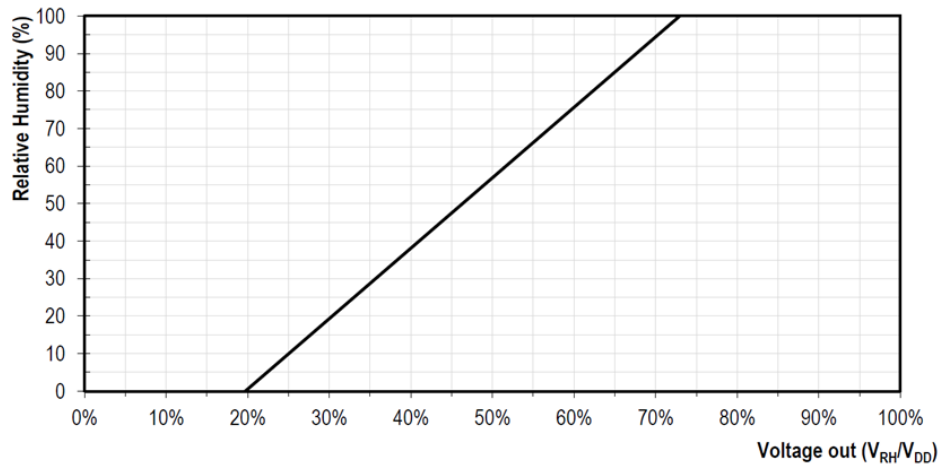
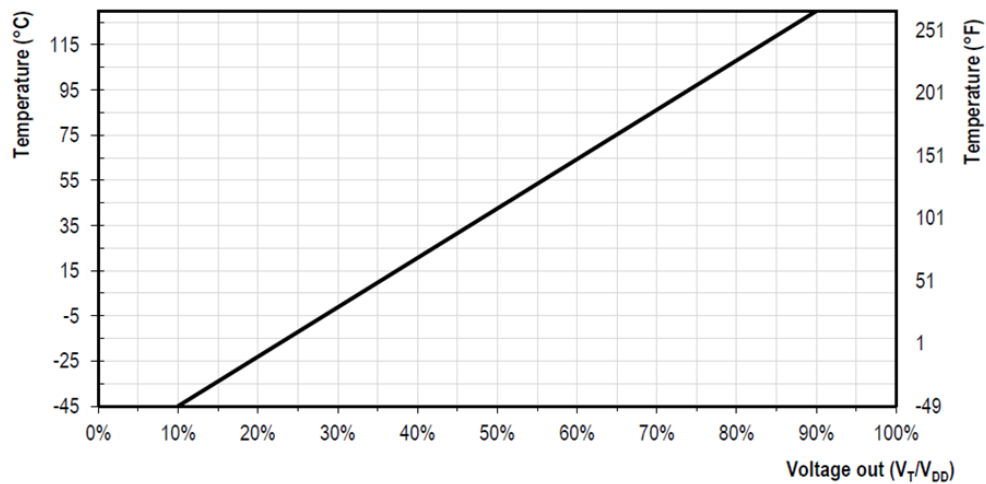

Figure 4 Relation between relative humidity and RH output voltage
Figure 5 Relation between temperature and T output voltage
Equations (1), (2) and (3) give the relationship between the physical values of relative humidity and RH output voltage, the relationship between temperature and T output voltage, which are plotted in Figure 4 and Figure 5.